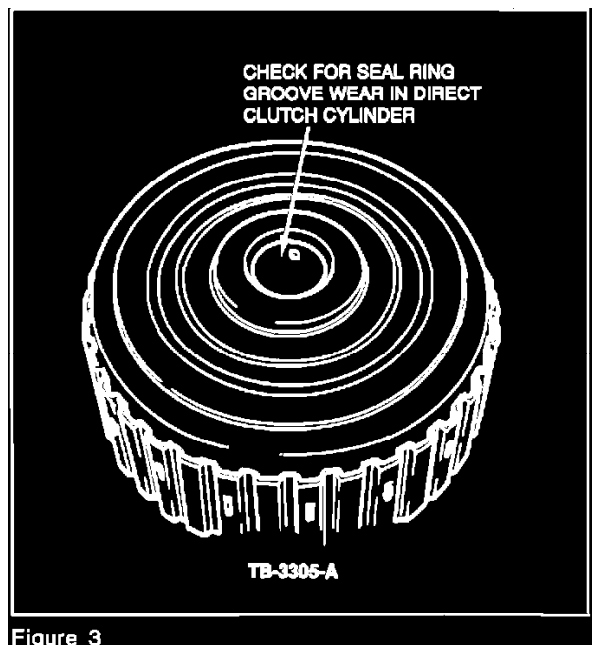

Figure 3
8. Check the direct clutch cylinder for groove marks on the inner ID of the drum, Figure 3.